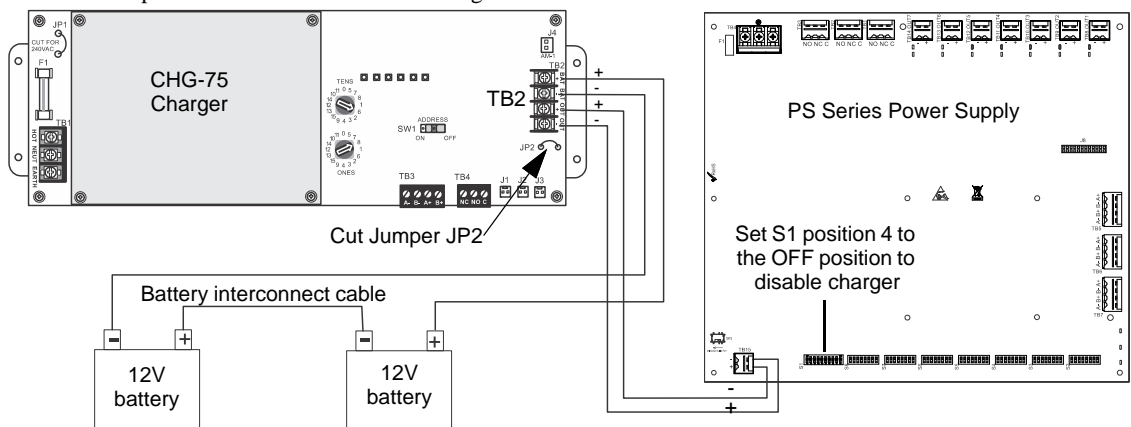

Figure 2.10 Connecting the Power Supply to a CHG-75 Charger
2. Connect the battery cables between TB15 (+ and -) on the power supply and the CHG-75 charger output circuit (TB2: Out+ and Out-) as shown in Figure 2.10. Be certain to observe polarity.